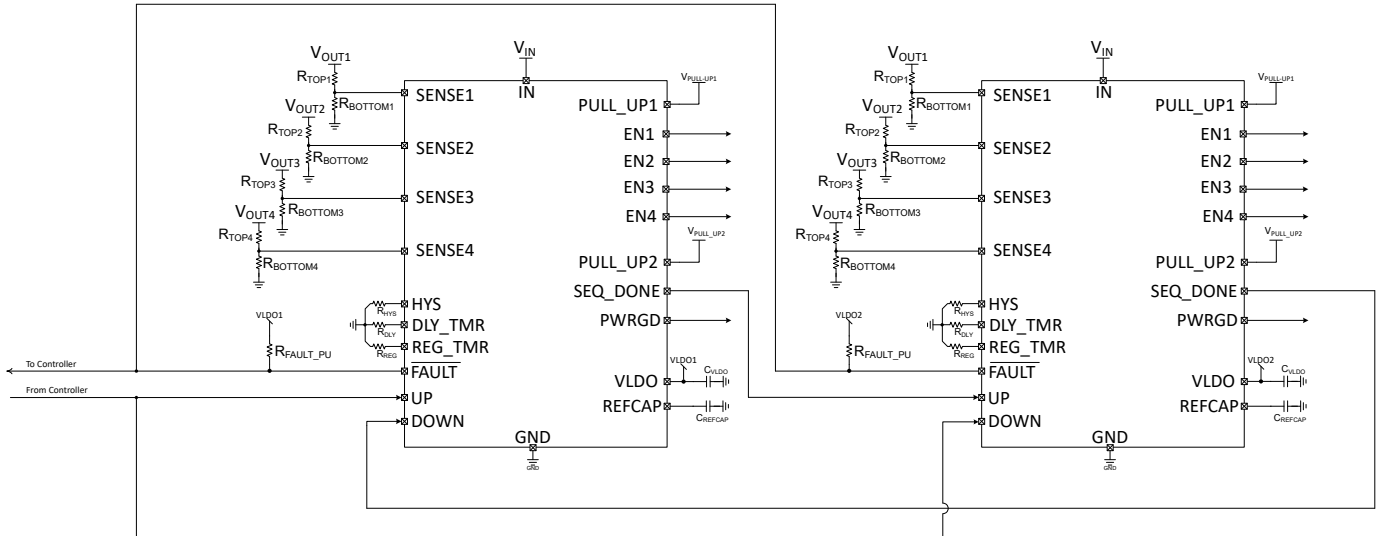

Figure 7-13. Daisy Chain Configuration
The TPS7H3014 incorporates four input channels to sequence/monitor up to four voltage rails. However, in the case where more than four channels are needed in the application, multiple devices can be daisy chained as needed. The daisy chain configuration is shown in Figure 7-13. In this case, only two devices are shown, however multiple IC can be configured as needed by the application.
3. PULL_UP2, which is the input supply to program the output voltage high (V_{OH}) of PWRGD and SEQ_DONE outputs. These outputs are typically connected to the system controller (typically an FPGA or ASIC) and/or to the house-keeping controller. In daisy chain configurations, SEQ_DONE is connected to UP of subsequent TPS7H3014 I.C. as shown in Figure 7-13. It is recommended to decouple this power supply with at least 1μF as close to the pin as possible. In this application, the V_{PULL_UP1} = 3.3V. This is a typical voltage of controller I/Os.